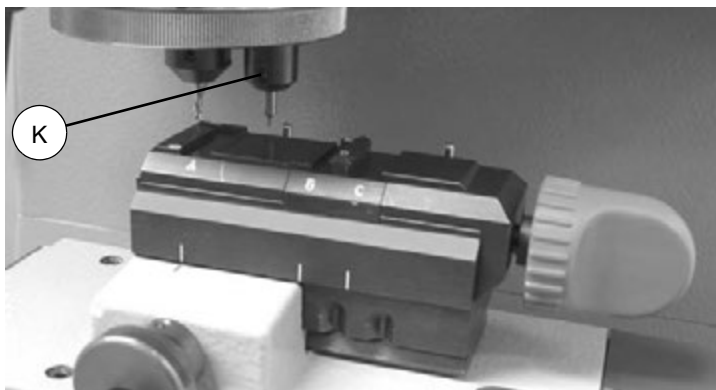

Fig. 85
- 1) Loosen the grub screw (K) (fig. 85).
- 4) tighten the grub screw (K).